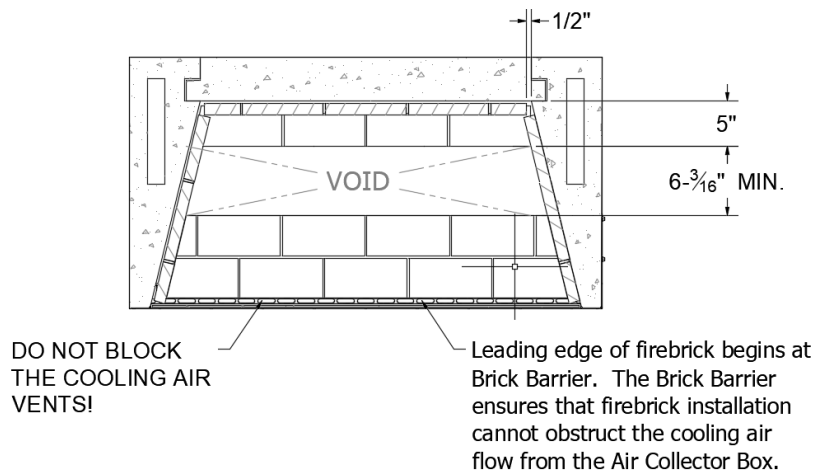

FIGURE 47
- 2) When used in the Maximus Linear Fireplace with Glass Front, the ISOFLAMES Linear Burner is designed to be recessed into the 2-1/2” deep firebrick cavity constructed as detailed in the Firebrick Installation portion of this manual (pgs. 48-49/ Figure 47 & 48).